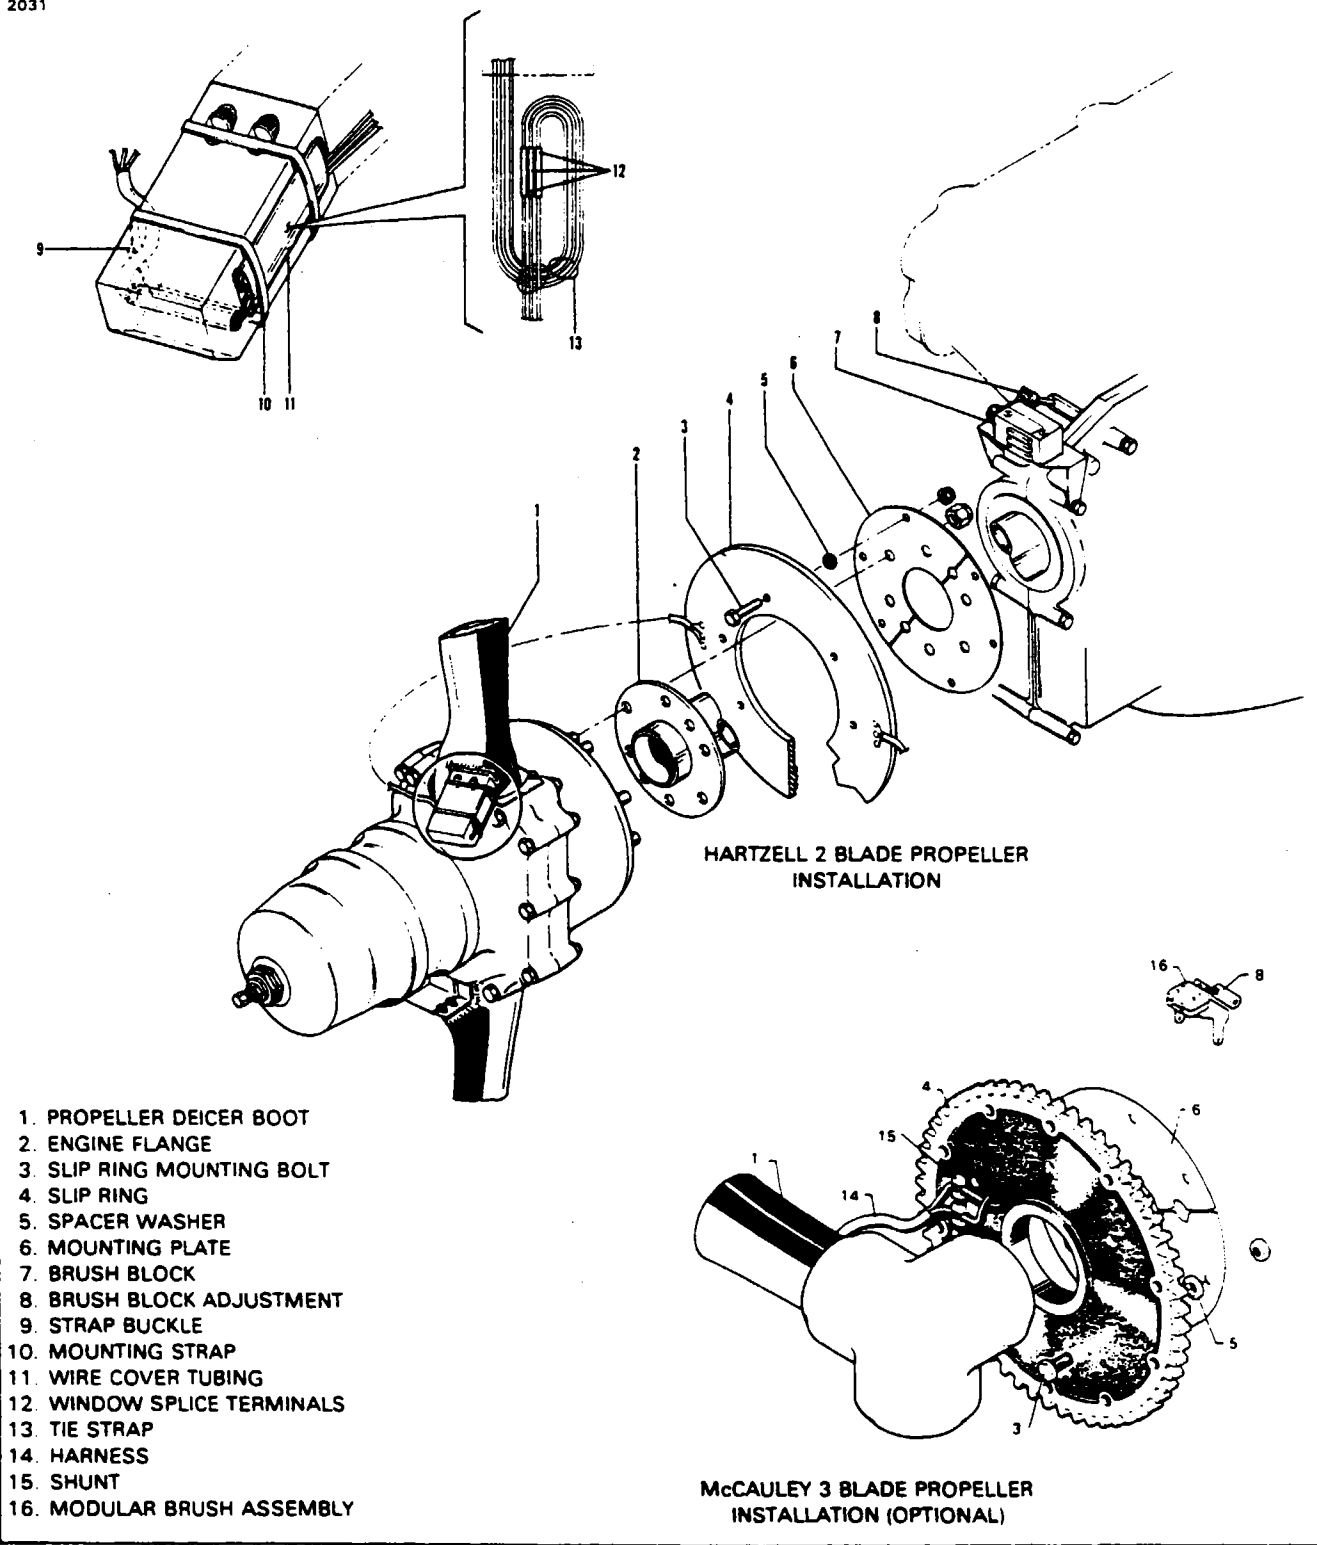

Figure 14-11. Propeller Deicer Installation
Check the strap restrainers are correctly located and secure. Look for cracks or other damage. Operate propeller from "full pitch" to "feathering" and check that deicer lead straps do not come under tension or are pinched by propeller blade. (Refer to Figure 14-11.)
14-29. **INSTALLATION OF DEICER WIRING HARNESS.** (Refer to Figure 14-11.) The deicer wiring harness must be installed to the propeller counterweight as follows:
- a. Place the wires in a configuration as shown in Figure 14-11.
- c. Feed the wire harness through the hole in the counterweight as shown in Figure 14-11.
- d. Position the wire bundle on the counterweight and install tie straps with the buckle on the side of the counterweight as shown in Figure 14-11.